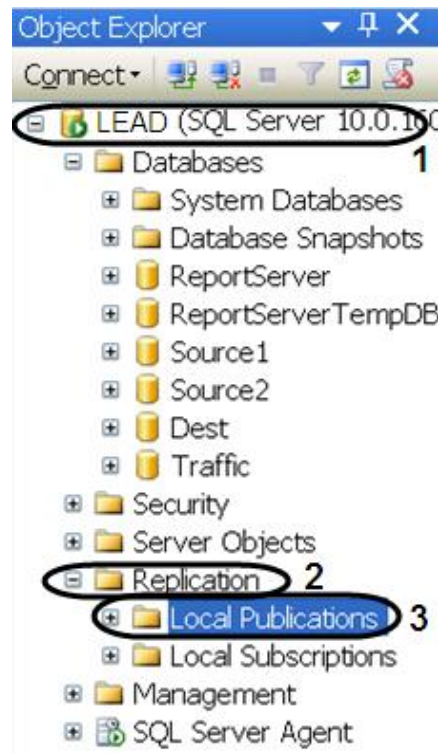

Fig. 9.3-3 Creating a new publication
6. Run the utility «Microsoft Sql Server Management Studio» and after connecting to the data publishing server open the server node (Fig. 9.3-3, 1).
7. Open the «Replication» folder (Fig. 9.3-3, 2), and then make a right click upon the «Local Publication» folder (Fig. 9.3-3, 3).